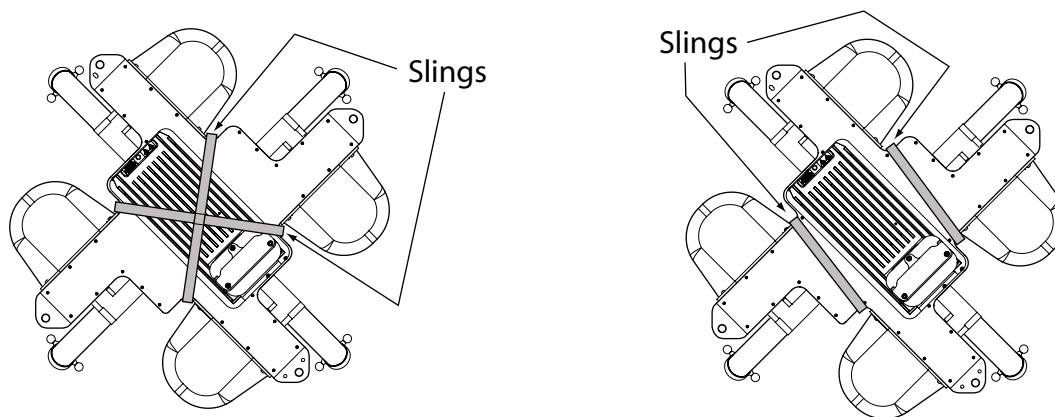

Figure 3-4. Location of Slings for Lifting Robot Base
NOTE: Since eyebolts would be in the way of this mounting method, you will have to use slings or other means to lift the robot base. Nylon slings can be wrapped across the center of the robot base, away from the inner arms. See **Figure 3-4**.
2. Wrap slings around the robot base. See **Figure 3-4** for two methods.